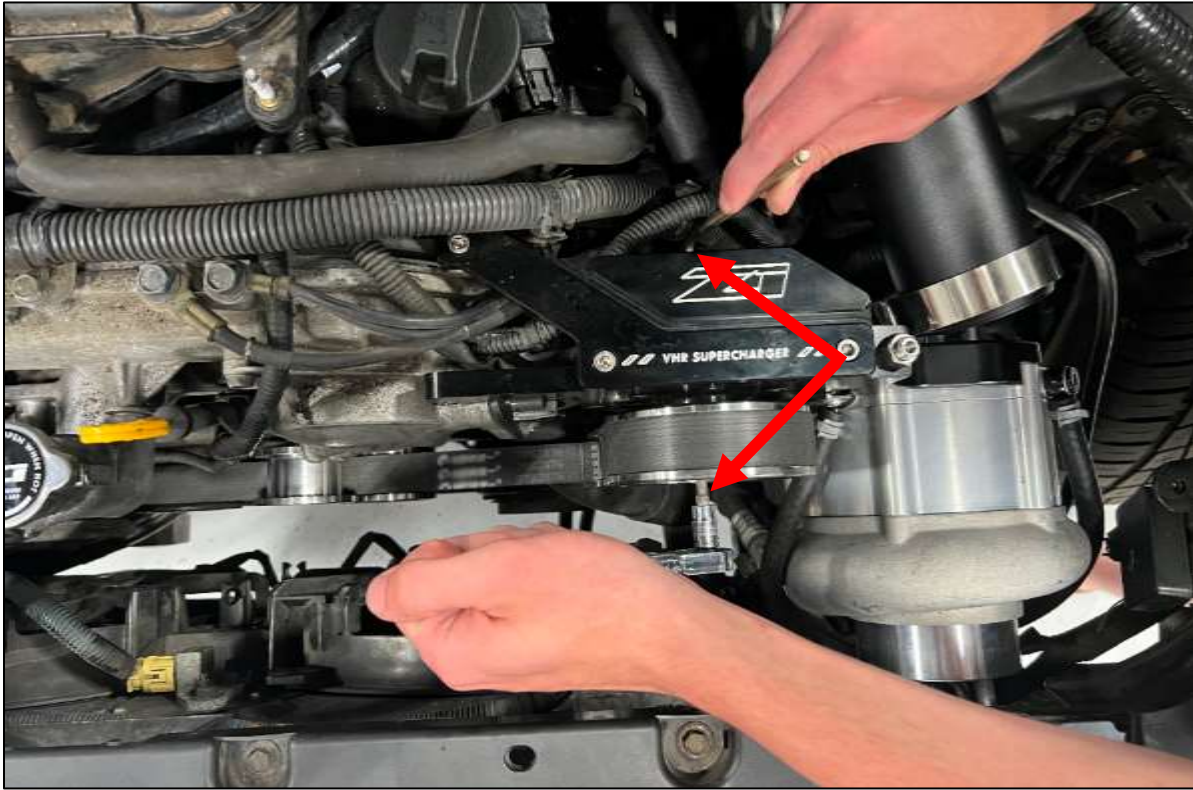

Figure 47
12. Using (2) two 5mm Allen/Hex Keys, one on the rear Pulley and one on the front, torque down the (3) three Socket Head Bolts on both pulleys on each side of the Bracket. **DO NOT** spin the pulleys. Torque the bolts to **9 ft-lbs**. Make sure all (3) three bolts on **BOTH** sides are torqued. *Figure 47.*